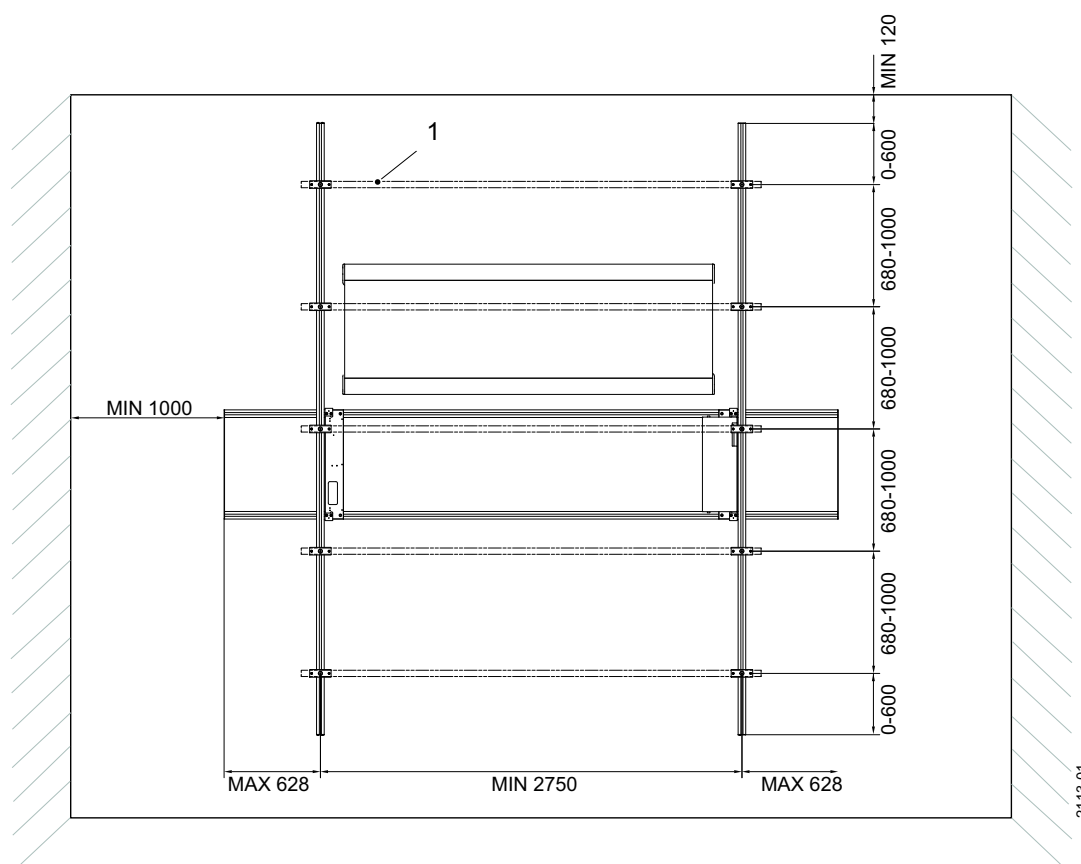

Fig. 4-1 Ceiling specification, units in mm
Check that necessary fixation points are present in the ceiling. Use Unistrut rails (1) or similar mounted according to **Fig. 4-1**.
The length of the traverse rails X, outside the ceiling rails Y must not exceed 628 mm, see **Fig. 4-1**. If the traverse rails are more than 4000 mm, a third rail must be used in the middle, for increased stability.
For distance X, see **Fig. 4-1**.